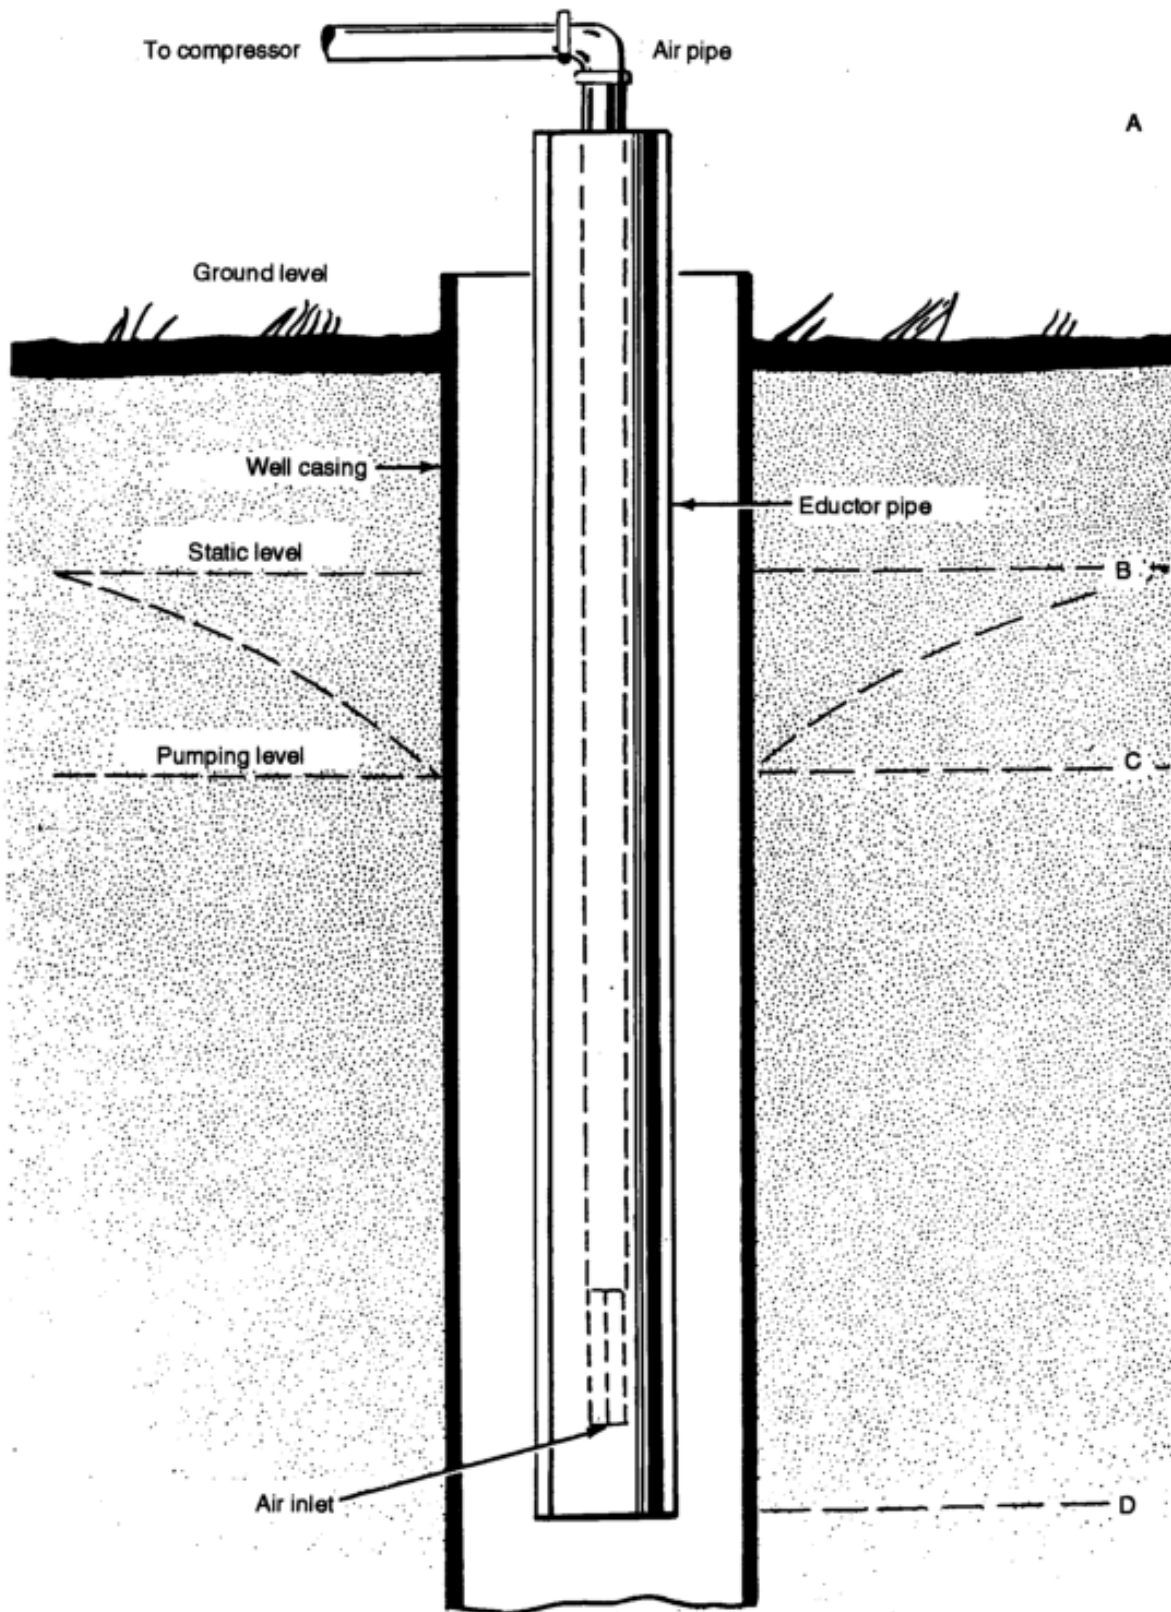

Figure 4-11. Submergence percentage
(1) Submergence. Submergence is the proportion (percentage) of the length of the air pipe that is submerged below the pumping level. Use the following formula and Figure 4-11 to determine submergence percentage:
(2) Air Pressure. To calculate the required air pressure to start the air lift, you must know the length of air pipe submerged below the static level. See Figure 4-11, area from point B to point D, for the starting air pressure. Divide the area from point C to D by 2.31 (constant/conversion factor) to get the required air pressure (psi).
(3) Compressors. The 350 cubic feet per minute (cfm) compressor on military drilling rigs, such as the LP-12, is sufficient for operating an air lift. With a submergence of 60 percent, a lift not exceeding 50 feet and the compressor delivering 350 cfm